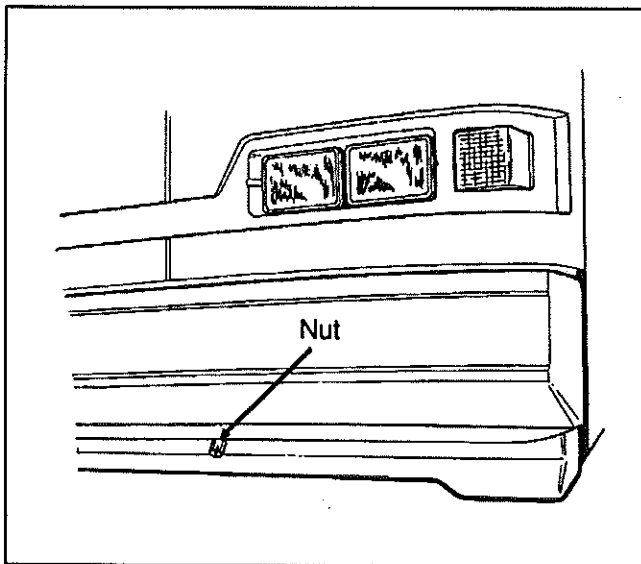

Fig. 2
1. Loosen 2 nuts on binding rods from under the bumper while holding the bumper closed. See figure 2.